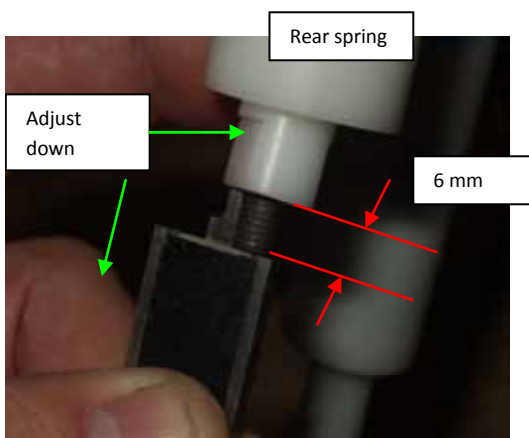

Figure 76 - Rear Lower Spring Cable Adjustment
1. Using a digital caliper to measure, adjust the rear lower spring cable adjuster counter-clockwise (down) **10 mm** so that the cable stud is now protruding **6 mm** (Figure 76). At this time there is 6mm free play in the rear cable.